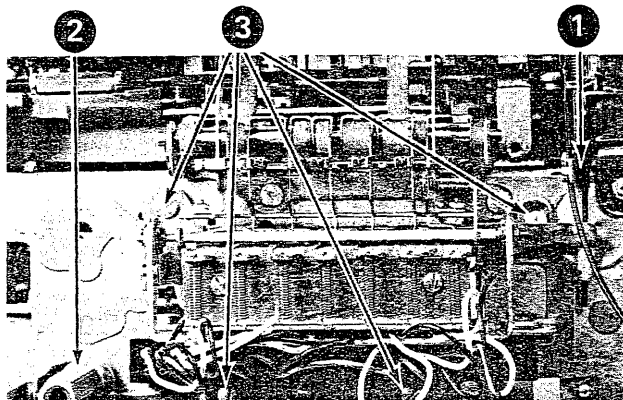

Figure 4-36. Print-Magnet-Assembly Removal (Steps 1-4)
1. Disconnect the cycle-clutch trip link (No. 1, Figure 4-36) by unhooking the clevis or by removing the elastic stop-nut.
2. Remove the support leg in the lower left corner (No. 2, Figure 4-36).
3. Remove the four mounting screws (No. 3, Figure 4-36).